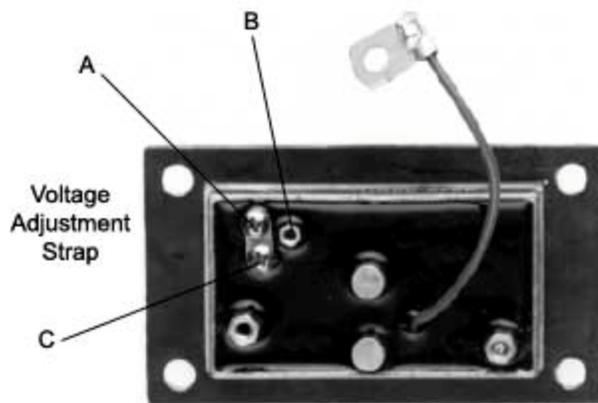

Figure 7
- 1.4 To adjust voltage remove and reinstall voltage adjustment strap in any of the three positions available. A & B (High), A & C (Medium), or C & B (Low). See Figure 7.